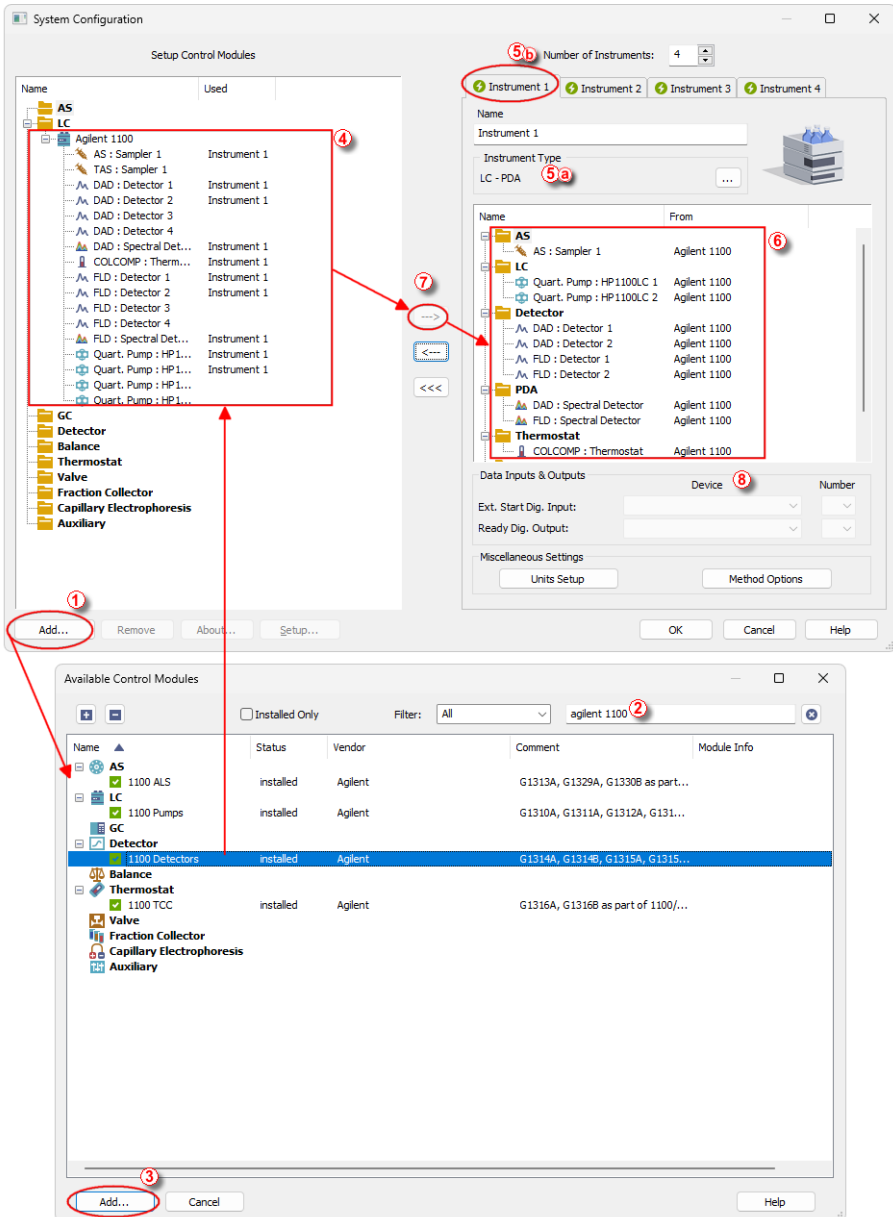

Fig. 10: How to add Agilent 1100
- Press the *Add* button ① (see **Fig. 10** on pg. 15.) to invoke the *Available Control Modules* dialog.
- You can specify the searching filter ② to simplify the finding of the driver.
- Select the **1100 Detectors** and press the *Add* ③ button.